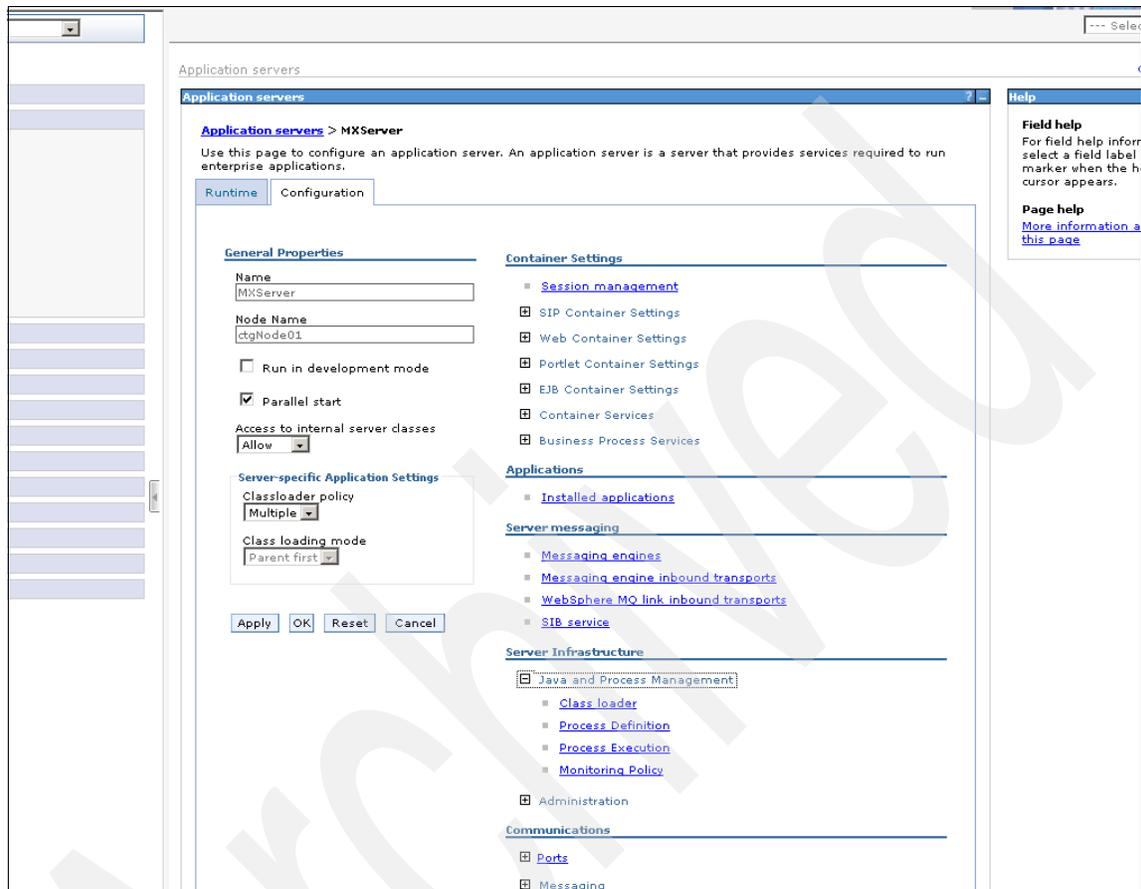

Figure A-2 Java and Process Management
- From the Server Infrastructure group, click the **Java and Process Management** link (see Figure A-2).